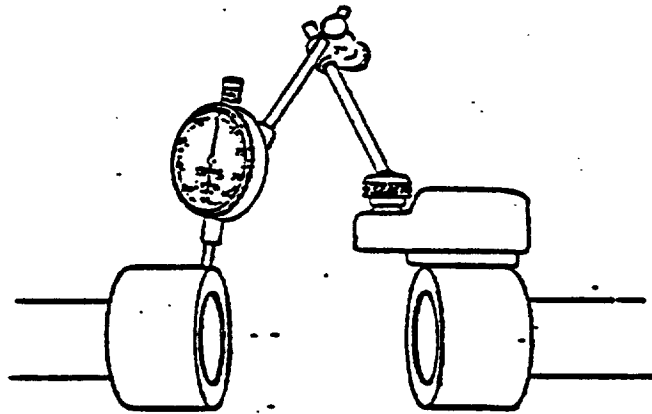

FIGURE 4
2. Align the unit to the elevation required using a dial indicator mounted on one machine and reading on the other (See Fig. 4). Turning both machines together, take four readings at points 90° apart. Shim the driver as necessary to satisfy the elevation requirement. The alignment is satisfactory when the machines are within $.002"$ ($.05\text{mm}$) TIR of the elevation requirement established in step one and within $.002"$ (0.05 mm) TIR side to side.
D. Inspect all impeller and casing wearing rings for damage and wear. Factory wearing ring clearances are listed in Figure 4. Replace wearing rings if excessively worn